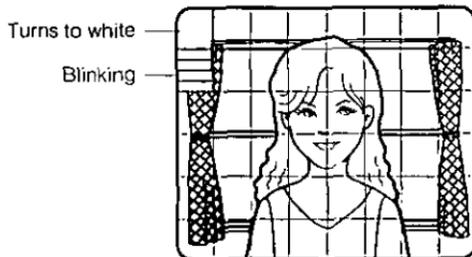

Fig. 36
- To mask other areas, move the cursor to the desired area by using the Up Switch (Λ) (8), Down Switch (∇) (5), Left Switch (<) (7) or Right Switch (>) (6). Then press the Set Switch (9) to mask that area. The area turns to white as shown in Fig. 36.